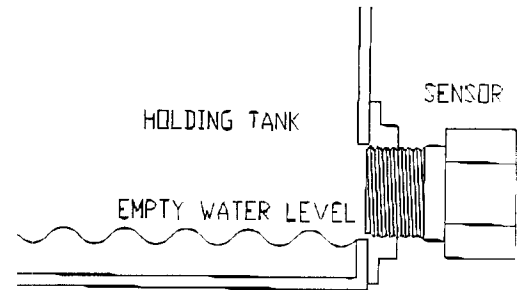
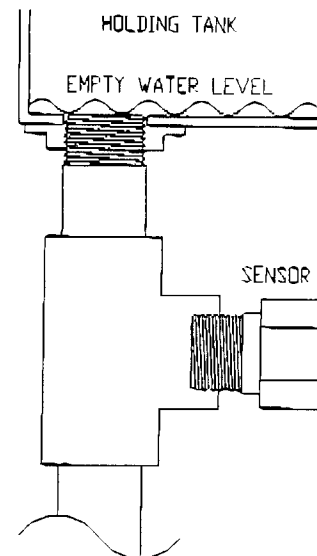

Fig. 5
Fig. 6
- 1) Drain tank to its normally empty position (See fig. 5). If sensor is mounted on a drainpipe or other plumbing, make sure the pipe is filled with water so the tank is at the normally empty position (See fig. 6).